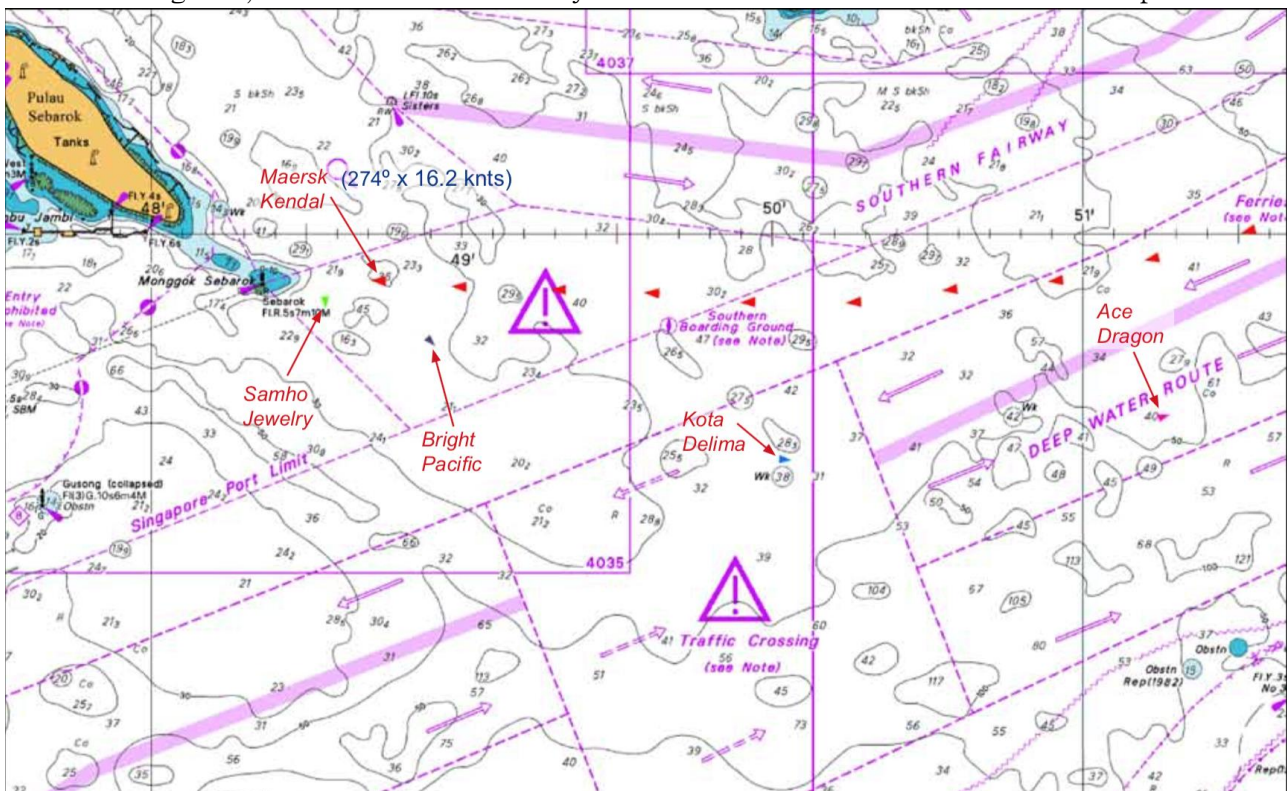

Figure 6-08: Point of no return at 0713 hours, one min. before grounding
In figure 6-08, Ownship collision situation is about to hit Black vessel's midship section after 6 minutes as grey ship if ownship keep original course 064° (T) and speed. This is situation 1 when ownship hit target vessel midship section.
- ⇒ If captain can read from speed vectors and know ownship will head into target's midship section 6 minutes before, ownship can alter course 064° degrees(T) to 067° degrees(T) as green course line/vessel. This is situation 2.
- If ownship steering course 067° (T) three degrees to starboard our position after 6 minutes is still within traffic lane. 174.5 meters = 1 cable. Usually TSS lane is 0.5 nm = 5 cables in width.
- Collision position is where target vessel's course line intersects with ownship's course line, it should be within Traffic crossing area of harbour's doorway as figure 6-08 marked with a purple triangle.